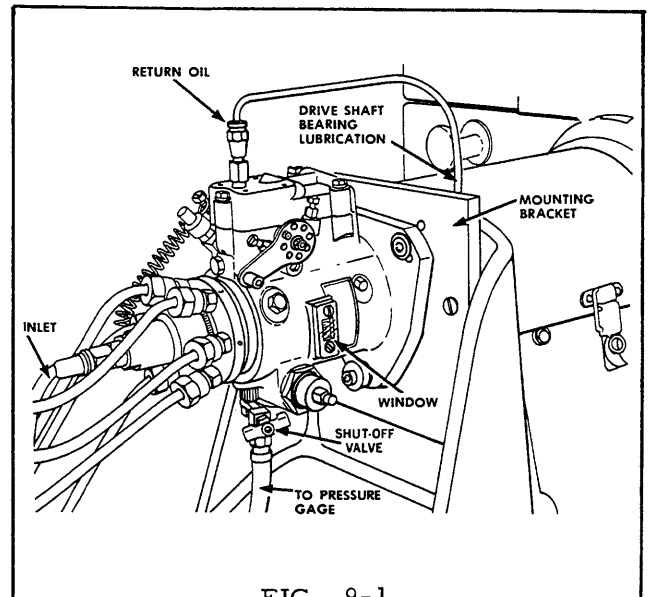

FIG. 9-1
1. Mount the pump securely with appropriate adapters. The drive shaft bearing must be lubricated during test. An effective means of lubrication can be arranged by allowing all of the pump return oil to flow over the front face of the drive shaft bearing and then drain back to the tank thru the test bench bed (Fig. 9-1).